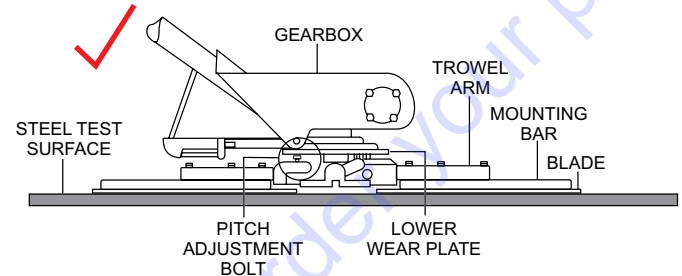

Figure 61. Correct Blade Pitch (Flat)
2. Pitch the blades as flat as possible. The pitch adjustment bolts (Figure 61) should all barely make contact (0.10 inch max. clearance) with the **lower wear plate** on the spider. All pitch alignment bolts should be spaced the same distance from the lower wear plate. If one is not making contact, adjustment will be necessary.